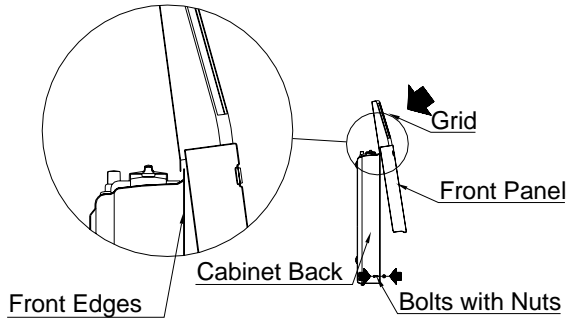

Fig. 4
- Reassemble the heater, slide the front panel through the front edges of the cabinet back as shown in figure 4.